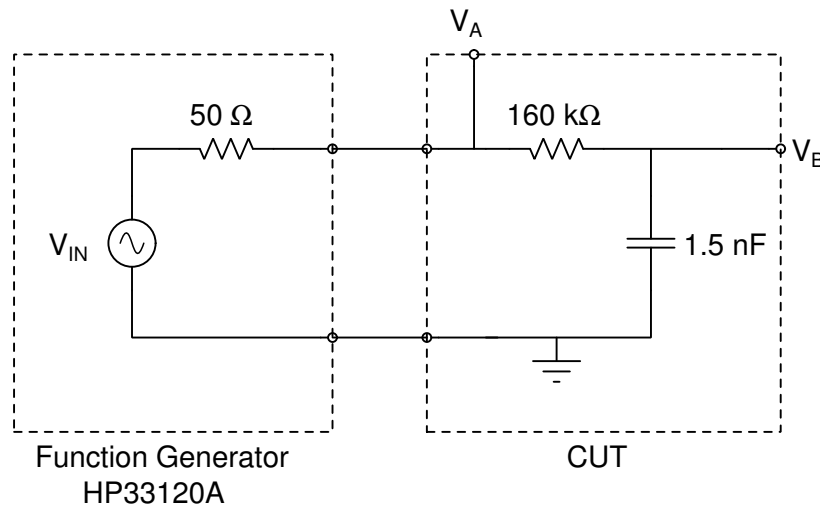

Figure 1: Circuit to be analyzed in Lab #2.
The circuit under test (CUT) is shown in Figure 1. Node voltages V_A and V_B will be measured using the two input channels on the oscilloscope. As in Lab #1, the input impedance of each channel will influence the circuit behavior. The 1X probes connecting the CUT to the measurement equipment are not explicitly shown in Figure 1. However, the capacitance of the probes can also influence the circuit behavior.
2. For the RC circuit shown in Figure 1:
- (a) For the circuit in Figure 1, set the peak input voltage set to 4 V, and use NGspice to simulate the node voltages V_A and V_B and the phase shift (PS) in degrees between the two nodes. Record you results in the “Ideal Simulated Circuit” columns in Table 1.
- (b) Modify the circuit schematic in Figure 1 to include the 1X probe capacitances and the input impedances of the two oscilloscope channels at nodes V_A and V_B . With the peak input voltage set to 4 V, use NGspice to simulate the node voltages V_A and V_B and the phase shift (PS) in degrees between the two nodes. Record you results in the “Complete Simulated Circuit” columns in Table 1.
2. Measure the values for each component needed in the circuit shown in Figure 1 using the LCR meter and a DVM. When measuring the capacitance, measure both C and DF at frequencies of 100 Hz, 1 kHz, and 10 kHz. Calculate the ESR of the capacitor. Can the ESR be ignored? Explain your reasoning in your notebook.
3. Build the circuit shown in Figure 1: